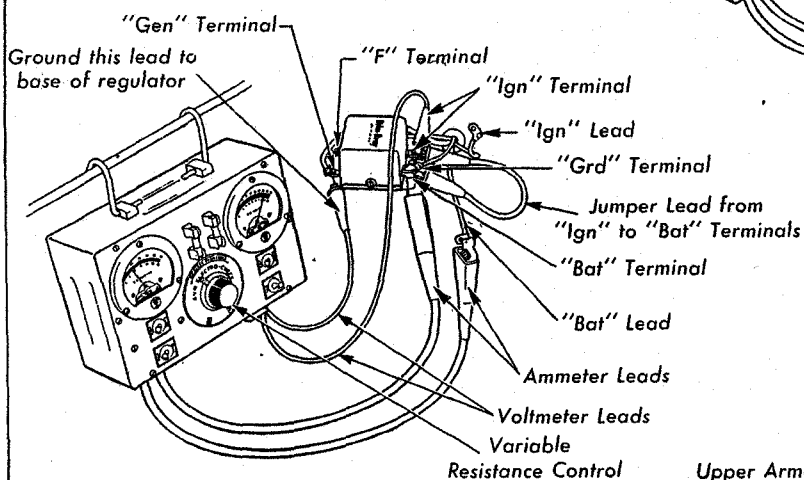
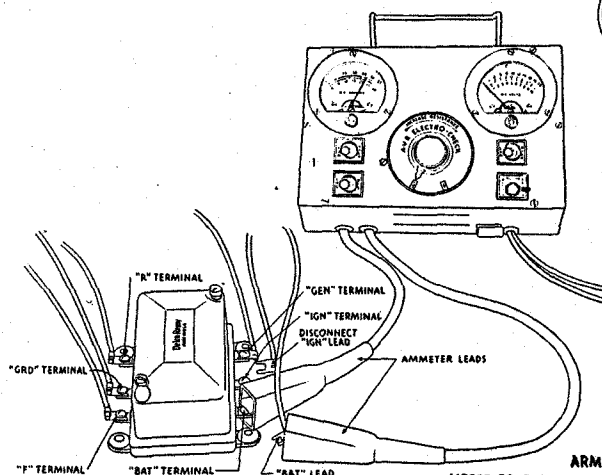

Fig. 10 Connections for Checking Regulator Operating Voltage
Fig. 14 Connections for Checking Current Regulator
1. Disconnect the lead from the "IGN" terminal on the regulator and connect the ammeter test leads as shown in Plate 63, Fig. 10 and Plate 64, Fig. 14.
Voltage Regulator—To check the voltage at which the regulator is operating, disconnect the "IGN" lead from the regulator and place a jumper lead from the "IGN" to the "AMM" or "BAT" terminals and connect the ammeter and voltmeter leads to the regulator as illustrated in Figs. 10 and 13.
In order to maintain the 8-10 ampere output while making this check it is recommended that a variable resistance of approximately .25 ohms be used in the charging circuit. This resistance must be connected in series at the "AMM" or "BAT" terminal of the regulator with a jumper lead from the "AMM" or "BAT" terminal to the ignition terminal as illustrated in Figs. 10 and 13. (IGN lead must be disconnected while making this check). If the charging rate is less than 8 amperes with all of the resistance out of the circuit, turn on the lights in order to maintain the output while making the check.
connect the ammeter to the regulator as shown in Fig. 14. Turn on the lights and gradually increase the speed of the generator until the output remains constant. Under this condition, the output of the generator will be the amount for which the current regulator is adjusted.